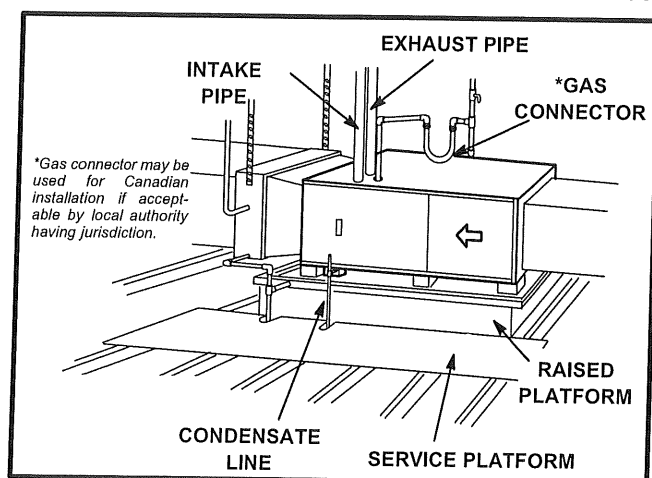

FIGURE 19
- 4 - Set unit in drain pan as shown in figure 19. Unit must be level to ensure proper coil drainage. Leave 5-1/2 inches for service clearance below unit for condensate trap.